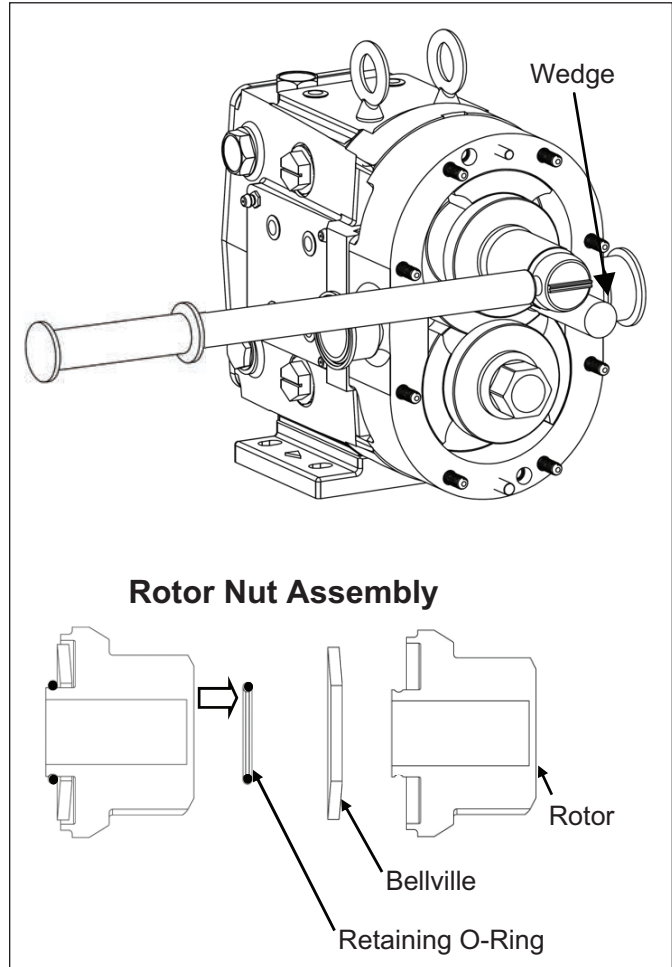

Figure 24. Rotor Removal
2. Remove the rotor nut assembly using the appropriate size wrench and a non-metallic wedge to keep the rotors from moving (Figure 24). Unthread each nut and disassembly the nut assembly (rotor nut, Bellville washer, and retaining o-rings).